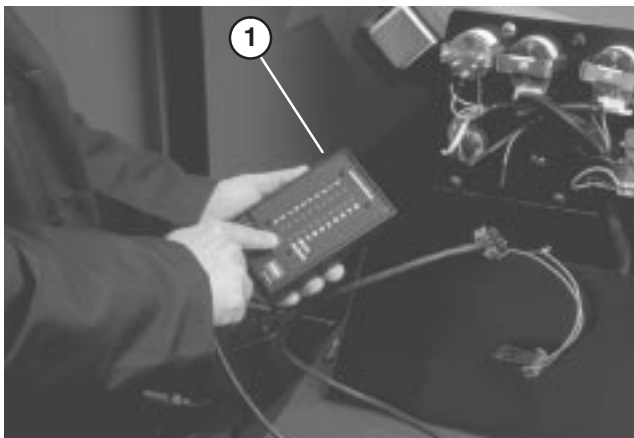

Figure 39
3. Connect the Diagnostic ACE display connector to the harness connector (Fig. 39). Make sure correct overlay decal is positioned on Diagnostic ACE display.